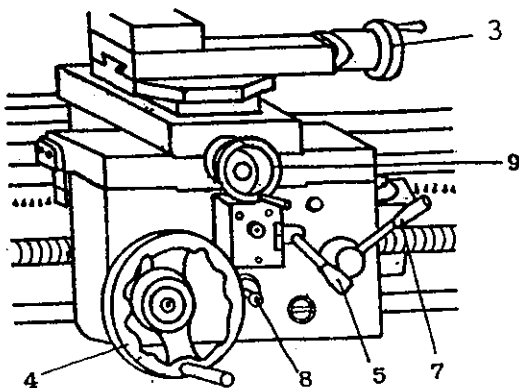

FIG. 8
3. TURN THE FEEDS AND THREADS SELECTIVE KNOB TO THE LEFT, THE FEED ROD (5 IN FIG. 8) WILL TURN.
4. PUSH DOWN THE AUTO-FEEDING SELECTOR (5 IN FIG. 8), THE MACHINE WILL HAVE A CROSS AUTOMATICAL FEEDING. PULL THE LEVER (5 IN FIG. 8) UP, THE MACHINE WILL HAVE A LONGITUDINAL AUTOMATICAL FEEDING.
IF YOU WANT TO FEED BY HAND, JUST PUT ALL THE LEVER BACK TO THE ORIGINAL POSITION, THE MACHINE IS NOW UNDER HAND WHEEL CONTROL. TURN THE HAND WHEEL (4 IN FIG. 8) AND MACHINE CAN MAKE THE LONGITUDINAL FEEDING.
1. MOVE SADDLE BY HANDLE WHEEL (9 IN FIG. 8).
2. CROSS MOVEMENT OF THE TOOL POST IS ACCOMPLISHED BY TURNING THE HANDLE (3 IN FIG. 8). THE TOOL POST WILL MOVE TOWARDS THE CENTER WHEN TURNING THE HANDLE CLOCKWISE.
THERE IS A FEED OVERLOAD CLUTCH IN THE APRON WHICH IS ADJUSTED BY TURNING THE ADJUSTMENT SCREW (8 IN FIG. 8) CLOCKWISE IF THE SADDLE OR CROSS-SLIDE STOPS WHILE TAKING A CUT. CARE MUST BE TAKEN NOT TO OVERTIGHTEN THIS SAFETY DEVICE AS YOU WILL NOT HAVE AN OVERLOAD PROTECTION.